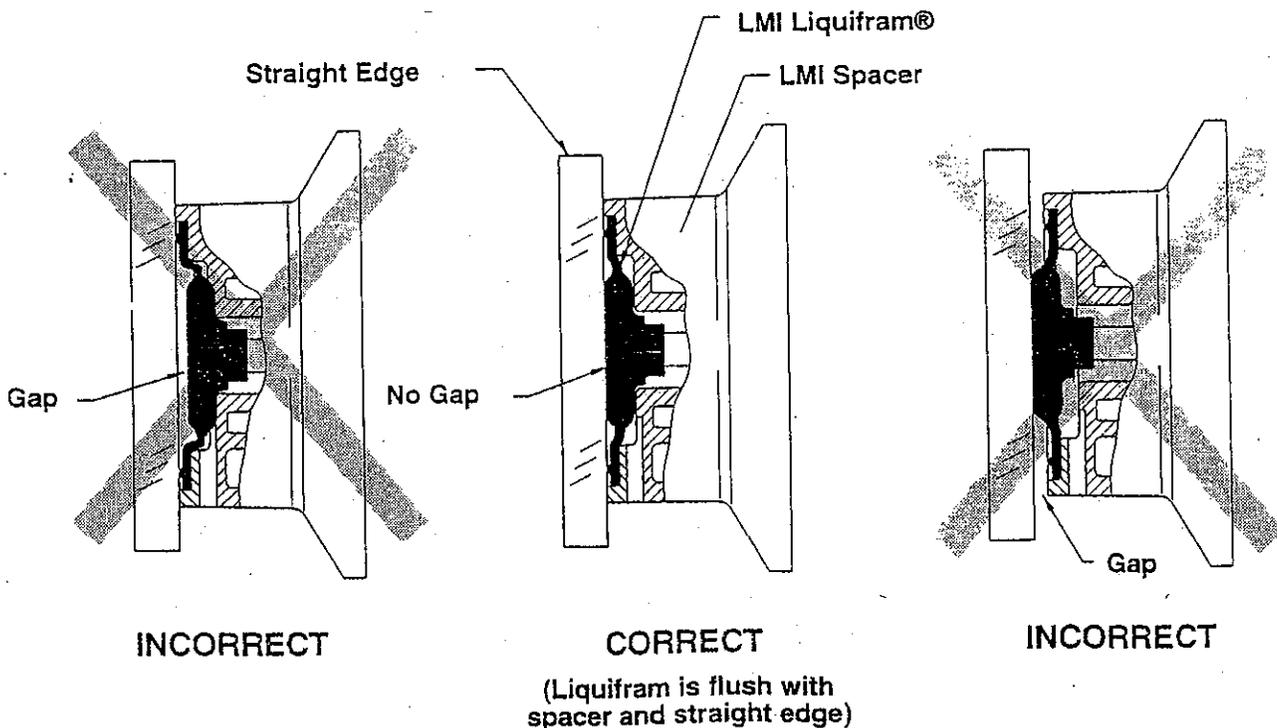

figure 1
6. Grasp the outer edge of the Liquifram® and adjust by screwing it in or out so that the center of the Liquifram® is flush with the outside of the spacer edge (see figure 1).
7. Once the Liquifram® is properly positioned, remount the pump head to the spacer using the four (4) screws. Tighten in a criss-cross pattern. After one week of operation, recheck the screws and tighten if necessary.